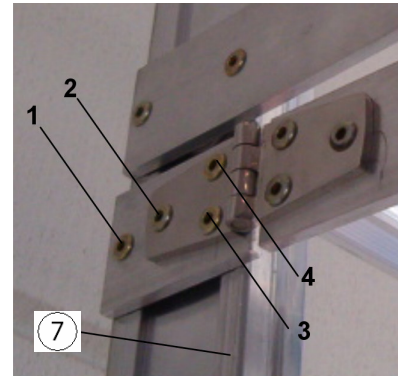

Figure 3
- Place the intermediate plate 8 mm below the hoop bracket (see figure 3).
- Drill a hole in the ladder upright pos. 1. Ensure the central hole is in the groove of the ladder upright (figure 3, pos.7).